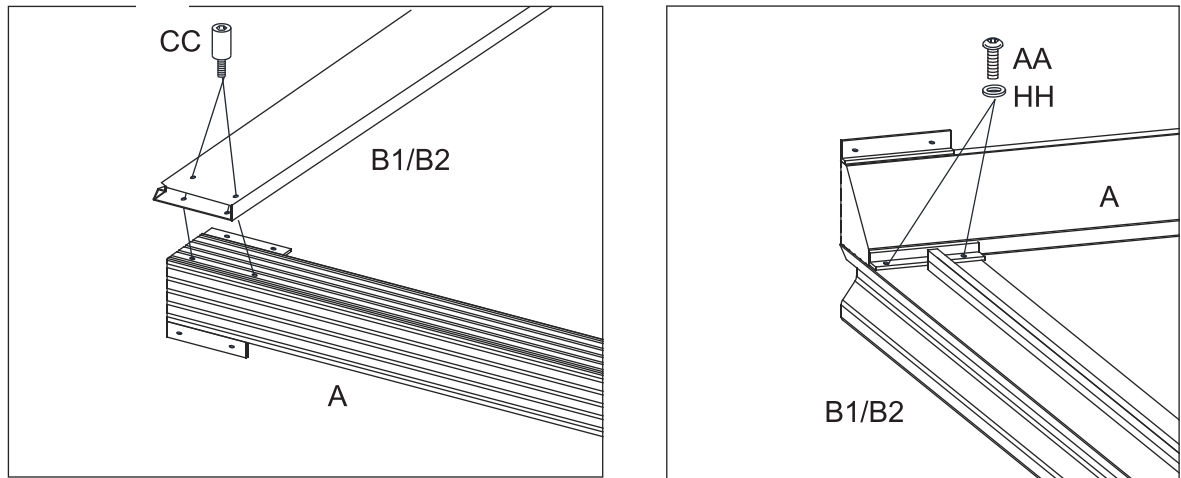

Figure 4.1
4.1: Attach Lintels (C1/C2) to end of Corner Posts (A) first with Bolts (CC) then with Bolts (AA) and washer (HH), Tighten all Bolts. See Figure 4.1.